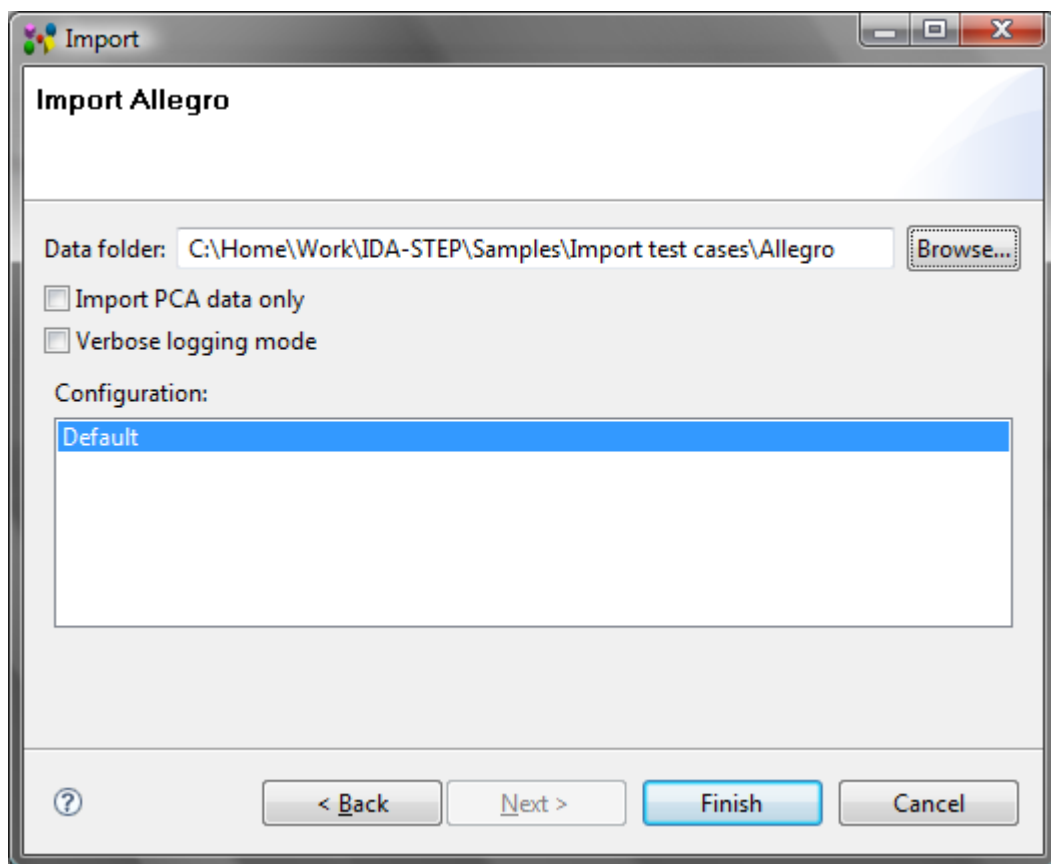

Figure 1. Import Allegro wizard dialog window
- Select  **Import Allegro** item in the appeared **Import** wizard dialog window. The **Import Allegro** wizard dialog window is invoked to select data folder (see Figure 1).